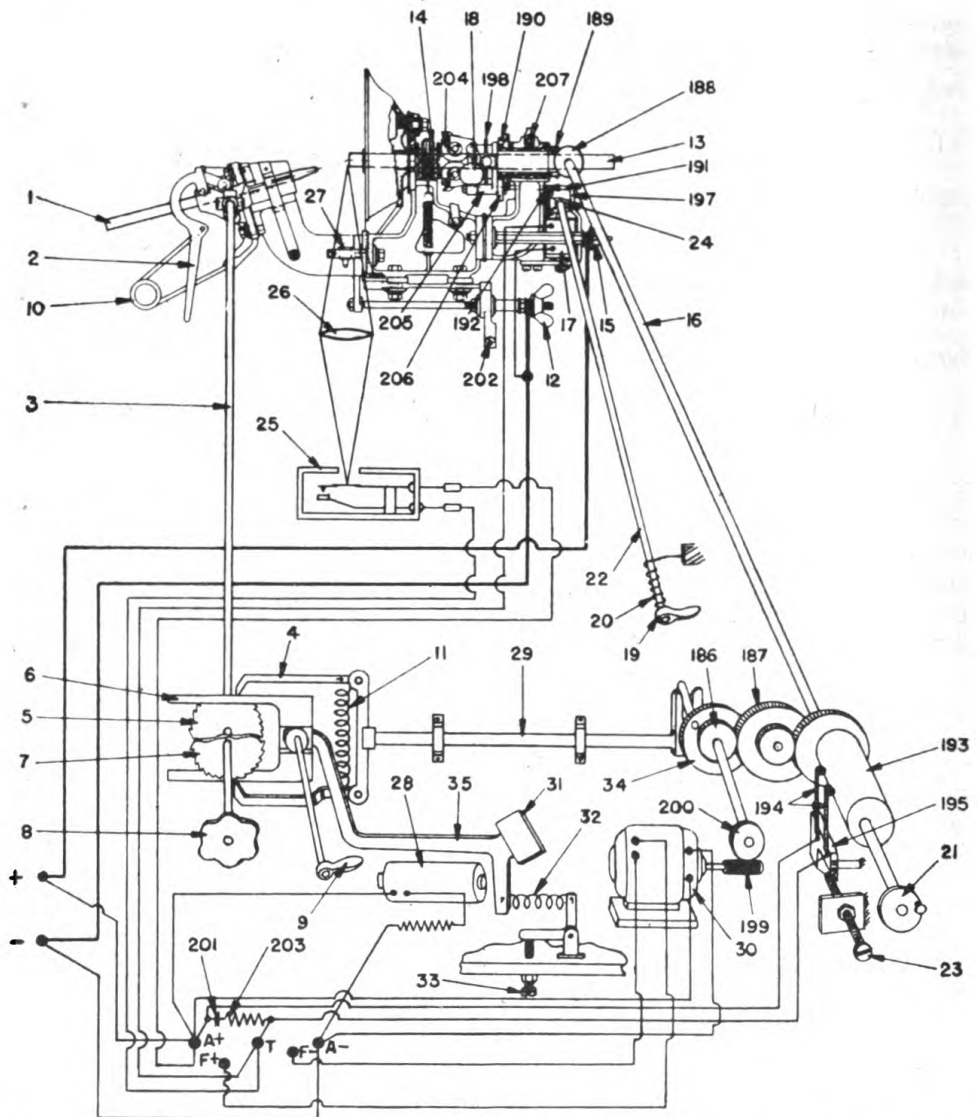
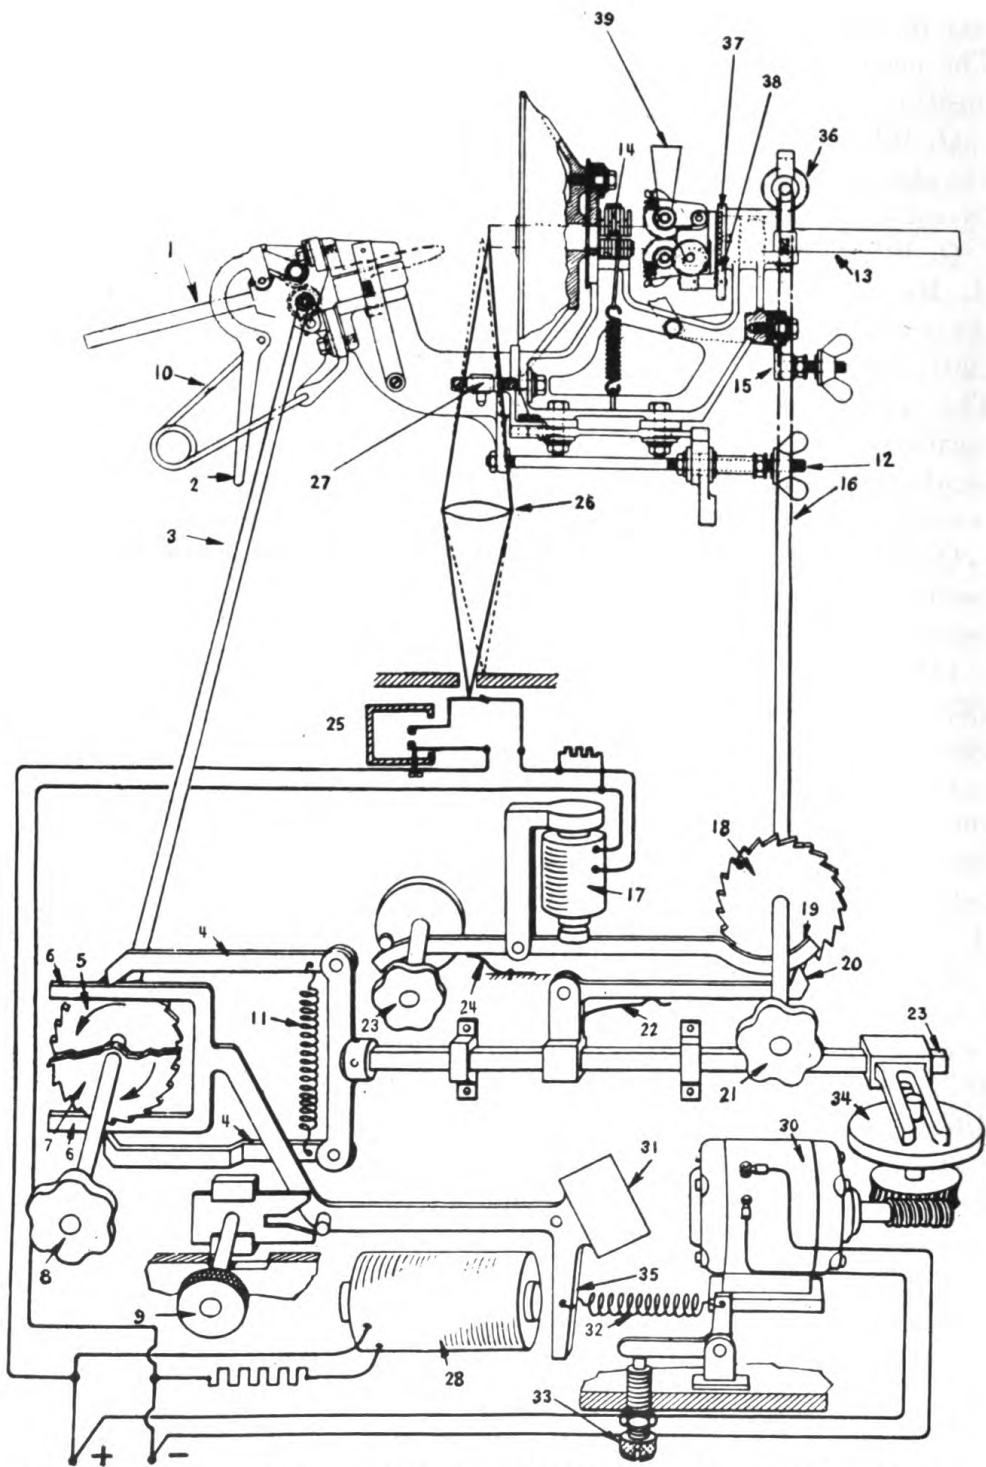

FIGURE 28.—Schematic diagram of the Sperry M1941 lamp and lamp control mechanism.
FIGURE 29.—Schematic diagram of the Sperry M1940 lamp and lamp control mechanism.
23. Operation of lamp and lamp control mechanism, M1941 Sperry searchlight.—Q. Describe briefly the operation of the lamp control mechanism. A. The lamp control mechanism and lamp are shown in schematic form in figure 28.
(1) *Positive carbon feed system.*—The feed motor (30) drives, through a set of gears, the positive rod (16) which drives miter gear (188) and a driven miter gear. Miter gear (189) drives a yoke carrying with it a set of gears. This set of gears includes a ratchet and gear assembly (190) which, when prevented from rotating by a feed plunger (191), causes a planetary gear (206) to rotate, which in turn causes the feed rollers to rotate, thus feeding the positive carbon forward.
(2) *Negative carbon feed system.*—The negative carbon feed system operates as follows: The feed motor (30) drives through eccentric gear (186), which in turn causes the reciprocating feed member (29) and the feed pawls (4) to oscillate back and forth. One of the feed pawls (4) (depending upon the position of the negative feed control guard (6) drives the negative control rod (3) so as to feed the negative carbon forward. The other pawl (4) drives the control rod in the opposite direction so as to retract the negative carbon. The negative control rod (3) is connected to the feed rollers which position the negative carbon.
Q. What operates the positive feed plunger (191), figure 28? *A.* An electromagnet which may be energized from two sources: a cam operated switch (195) or thermostat (25).
Q. How does the thermostat function? *A.* It is a thin strip of two different metals welded into a single strip. When heated this strip will bend because the two metals have different rates of expansion. When rays of light from the positive crater are focused by the thermostat lens (26) on to the bimetallic strip, the strip bends and closes an electrical contact which in turn energizes the positive feed electromagnet.
Q. What is the function of the arc length control coil (28)? *A.* It acts as a magnet on armature (35), which in turn positions negative feed pawl guard (6), allowing ratchet (5) to retract the negative carbon when the arc voltage is less than 78 volts. Ratchet (7) is engaged when the voltage is greater than 78 volts. Thus it keeps the negative carbon positioned so as to maintain a constant arc length. It functions on the electrical principle that the arc voltage varies directly with the arc length.
Q. Describe briefly the operation of the lamp control mechanism. *A.* The control mechanism and lamp are shown in schematic form in figure 29.
(1) *Positive carbon feed system.*—The feed motor (30) drives an eccentric disk (34) causing the reciprocating feed member (29) and positive feed pawl (20) to move back and forth. Positive feed pawl (20) engages the teeth on positive feed ratchet (18), rotating it and the positive control rod (16) in a counterclockwise direction. Control rod (16) drives gear (36), causing a yoke carrying planetary gear (38) to rotate. Planetary gear (38), through a worm drive, causes the carbon feed rollers to rotate and feed the positive carbon forward.
(2) *Negative carbon feed system.*—The reciprocating feed member (29) and the feed pawls (4) oscillate back and forth. One of the feed pawls (4) (depending upon the position of the negative feed control guard (6)) drives the negative control rod (3) so as to feed